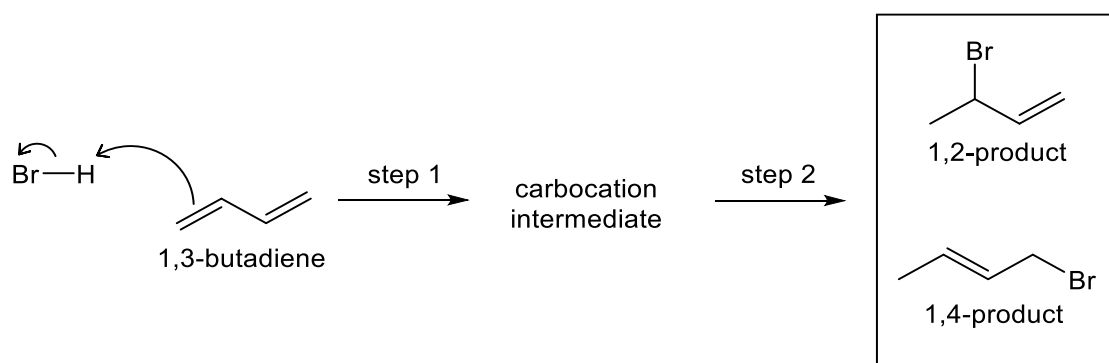
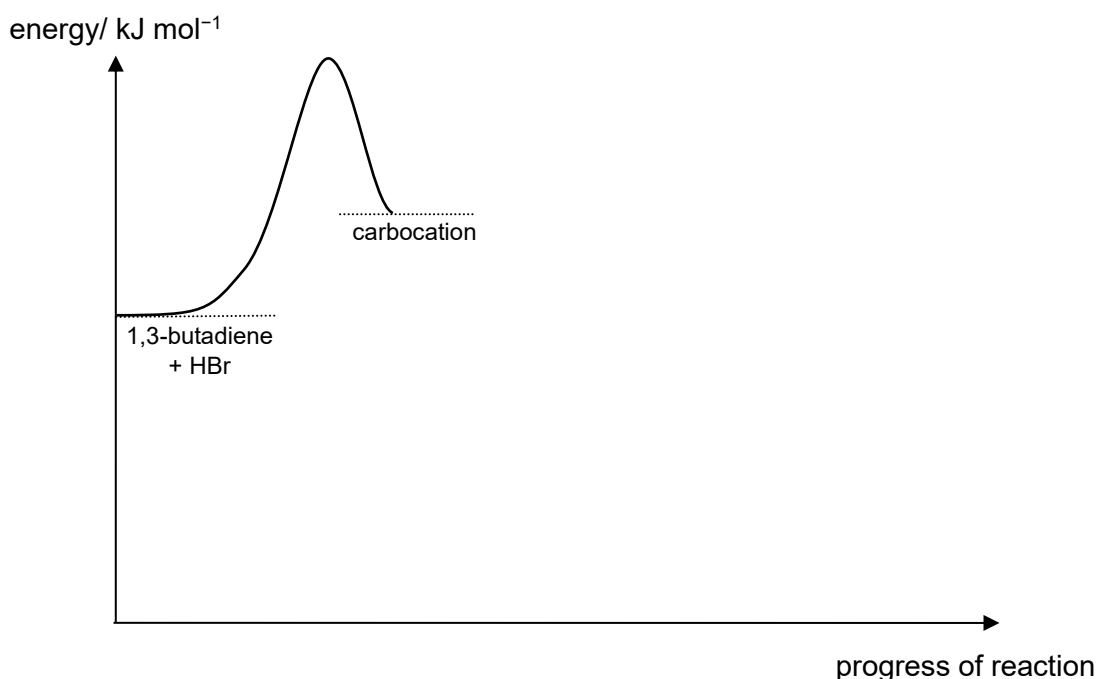

Fig. 5.1
Fig. 5.2
When an equimolar ratio of 1,3-butadiene and HBr are reacted together, two different products can form via an electrophilic addition mechanism, as shown in Fig. 5.1.
- (i) Draw the structure of the carbocation intermediate that forms **each** of the products shown in Fig. 5.1, and hence explain why the 1,4-product can be obtained from this reaction.
Using the data in Table 5.1, complete the energy profile diagram for the two-step mechanism in Fig. 5.1, on the axes provided in Fig. 5.2. Show clearly the pathway to form **both** products. Include labels to show the activation energies, enthalpy changes and products clearly.